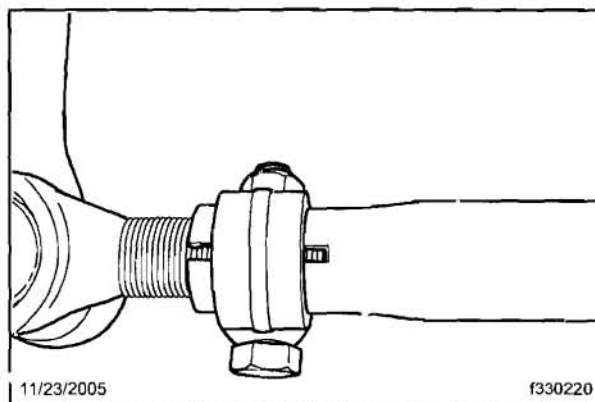

Fig. 1, Correct Tie Rod Thread Engagement
12. Verify that you can see threads showing the full length of the slot. See **Fig. 1**.